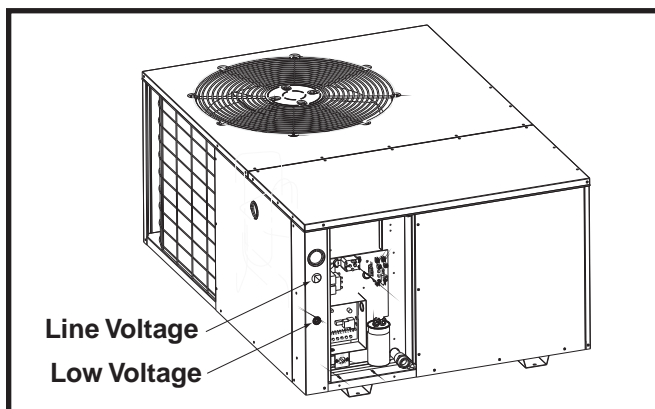

Figure 8. Power Entry
- Provide power supply for the unit in accordance with the unit wiring diagram, and the unit rating plate. Connect the line-voltage leads to the terminals on the contactor inside the control compartment. Extend leads through power wiring hole (Figure 8). Connect L1 & L2 directly to the contactor.
- The low voltage wires must be properly connected. Route 24V control wires through the sealing grommet (Figure 8, page 8) near the power entrance. Recommended wire gauge and wire lengths for typical thermostat connections are listed in Table 2 (page 10).